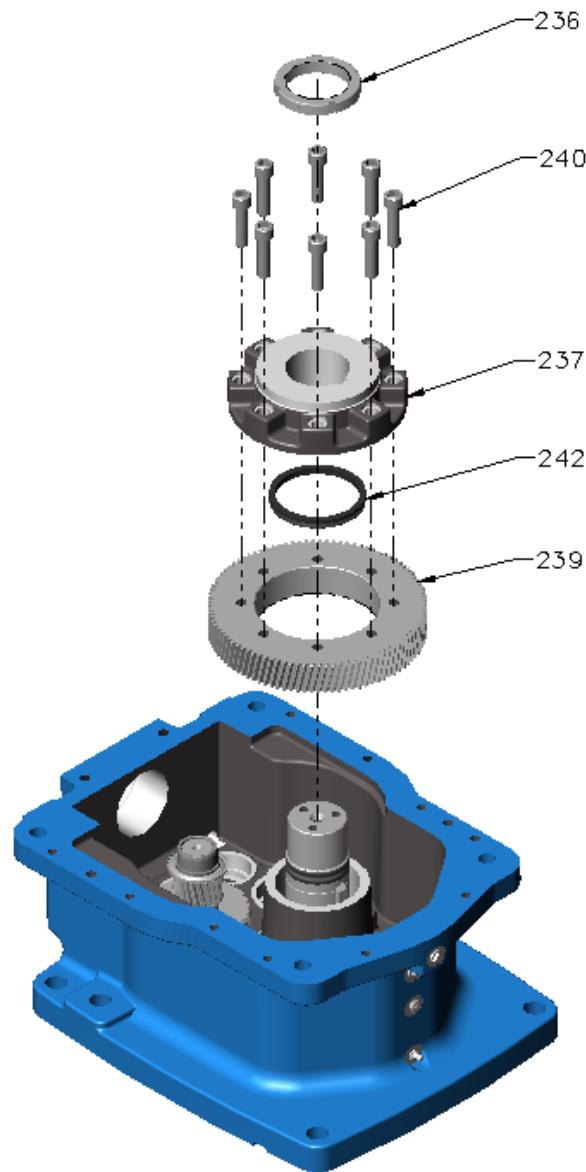

Figure 18 – Gear Flange
- H. Install V-ring [242] in gear flange [237] and heat flange to 120° C (248° F) (refer Figure 18).
- I. At output shaft [244], install the following items: (refer Figure 18).
- J. Lift gear [239] to engage tenon on the flange and install bolts [240] (refer Figure 18). Make sure the gear is sitting flat on the gear flange. Use feeler gage to check
- K. Torque-tighten bolts [240] to value given in Table 1 (refer Figure 18).